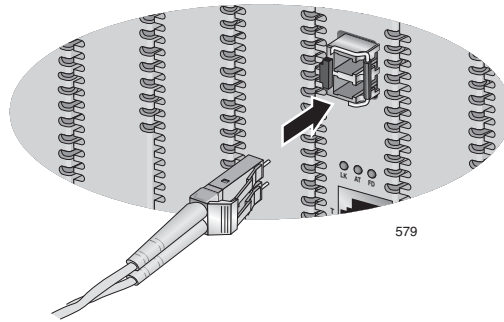

Figure 34. Connecting Fiber Optic Cables to the SFP Transceiver
3. Connect the fiber optic cable to the SFP transceiver, as shown in Figure 34.